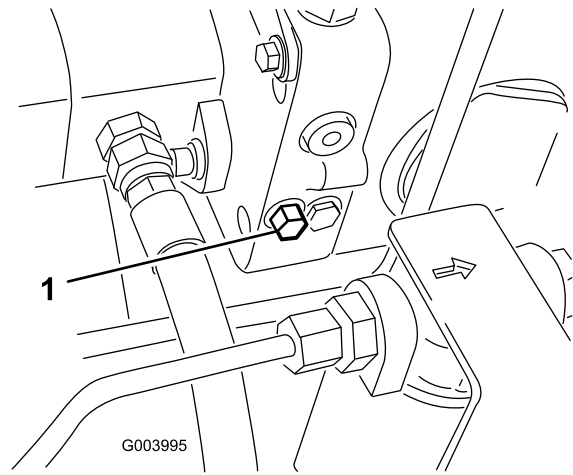

Figure 25
1. The bypass valve is located on the left side of the hydrostat (Figure 25). Rotate the bolt 1-1/2 turns to open and allow oil to bypass internally. Because fluid is bypassed, the machine can be moved slowly without damaging the transmission.